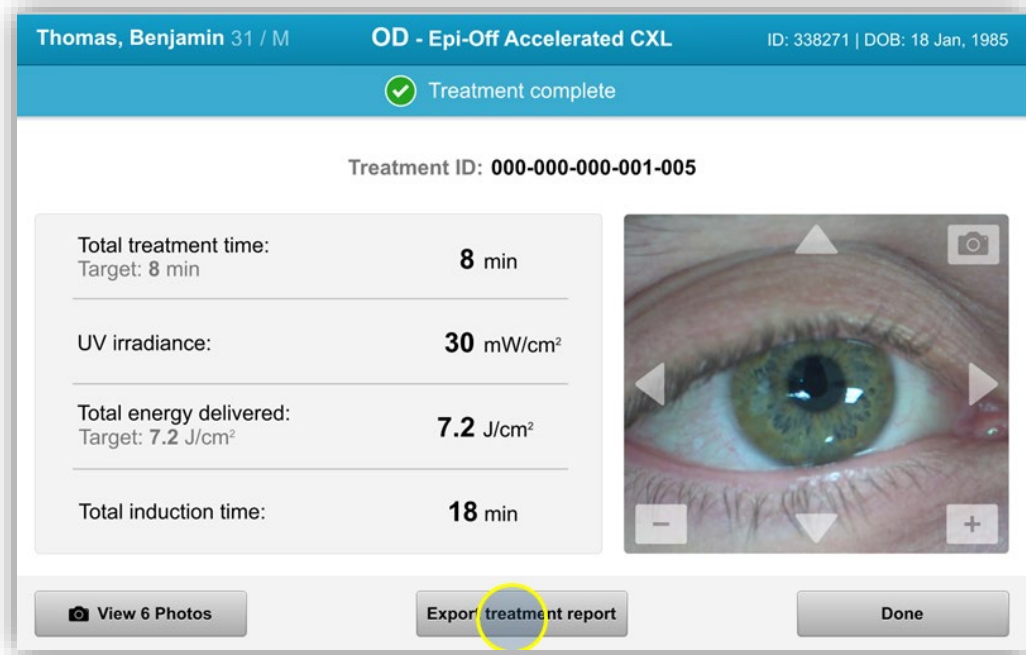

Figure 3-40. Exporting Treatment Report
- Select “Export treatment report” as shown in Figure 3-40 to save report to a USB stick.